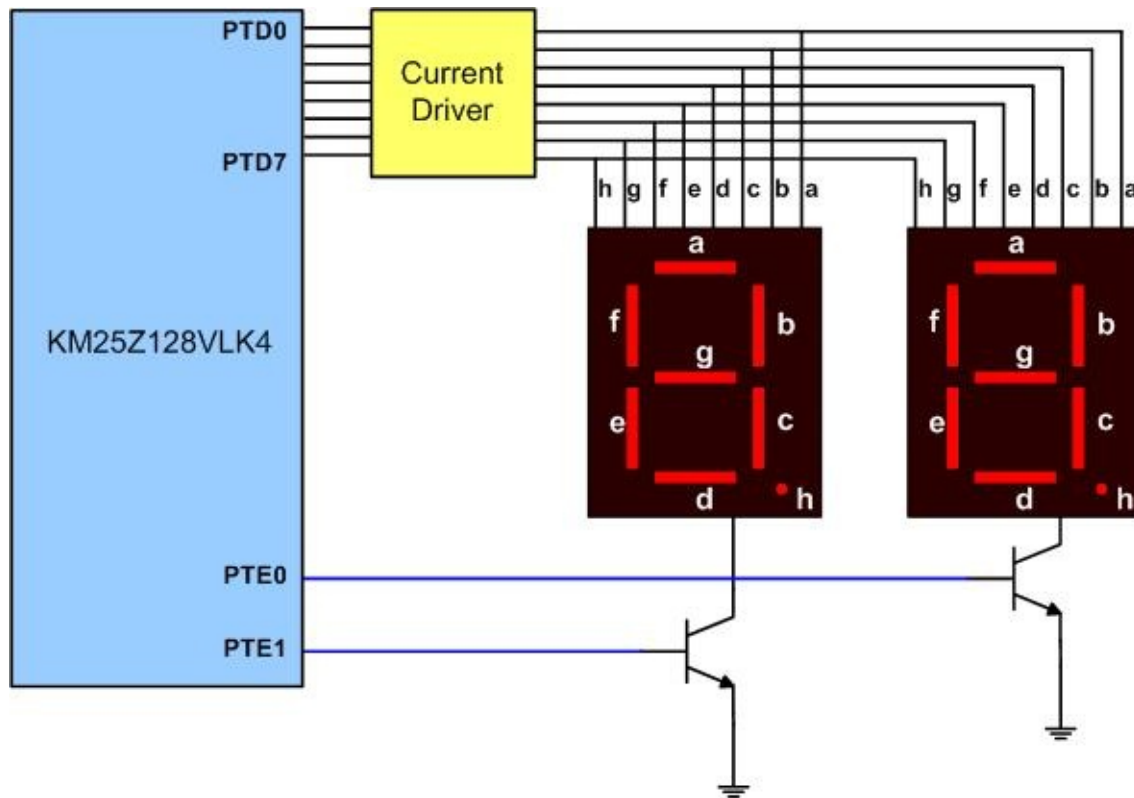

Figure 2-22: Microcontroller Connection to 7-segment LED with Buffer Driver
5. In an application, we need 8 digits of 7-seg LED. How many pins of microcontroller will be used if we connect microcontroller to 7-seg directly (similar to Figure 2-22)? How about if we use 3-8 decoder for digit selection?